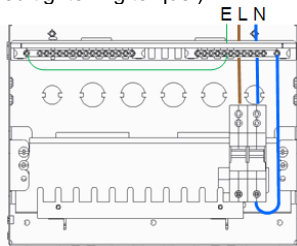

Fig 2.1 Incoming Terminal Connections
- Mount the unit into its installation position, Both 'L' brackets provided must be fitted in positions 'a' OR 'b', see Fig 2.1. When installed the base of both 'L' brackets should sit flush against the enclosure back wall in order to support the unit. Assess which 'L' bracket position (a OR b) best suits the installation and which bracket fixing holes should be used (the depth of the bracket fixing can be adjusted using the various bracket holes). Remove the unit from the installation.
- Use the following fasteners provided to attach each 'L' bracket to the box: 4 x M5 screws, 4 x M5 nuts and 8 x M5 serrated washers, See Fig. 2.1.
- Cut and dress the main incoming cables and earth conductor. Fit them into the appropriate terminals. (Fig 2.1)